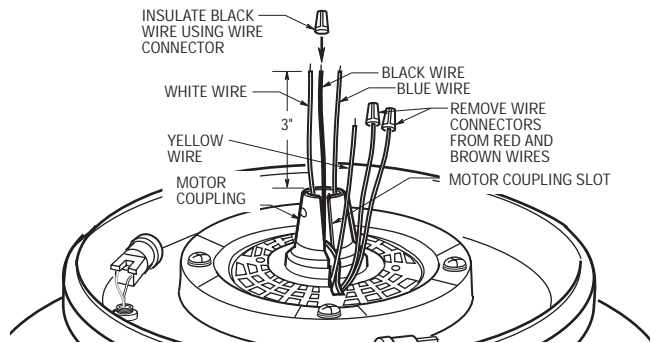

Figure 1
1. Cut the white, blue, and black wires about 3" above the motor coupling (Figure 1). Strip insulation 1/2" from end of wires and install a wire connector on the black wire; this wire will not be used. Remove the wire connectors from the red and brown wires.